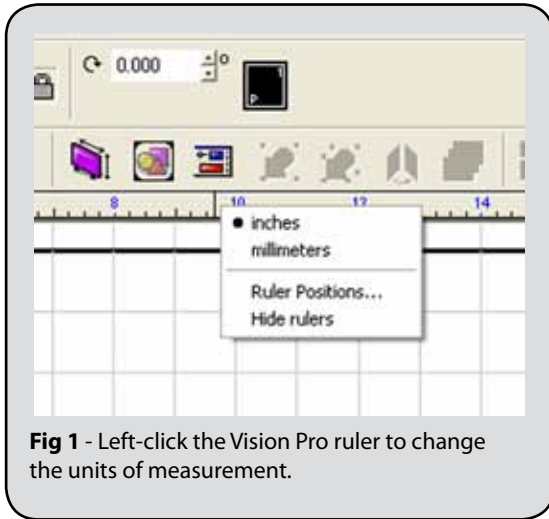

Fig 1 - Left-click the Vision Pro ruler to change the units of measurement.
- Left-click the ruler and choose either **Inches** or **Millimeters** from the context menu. (Fig. 1)